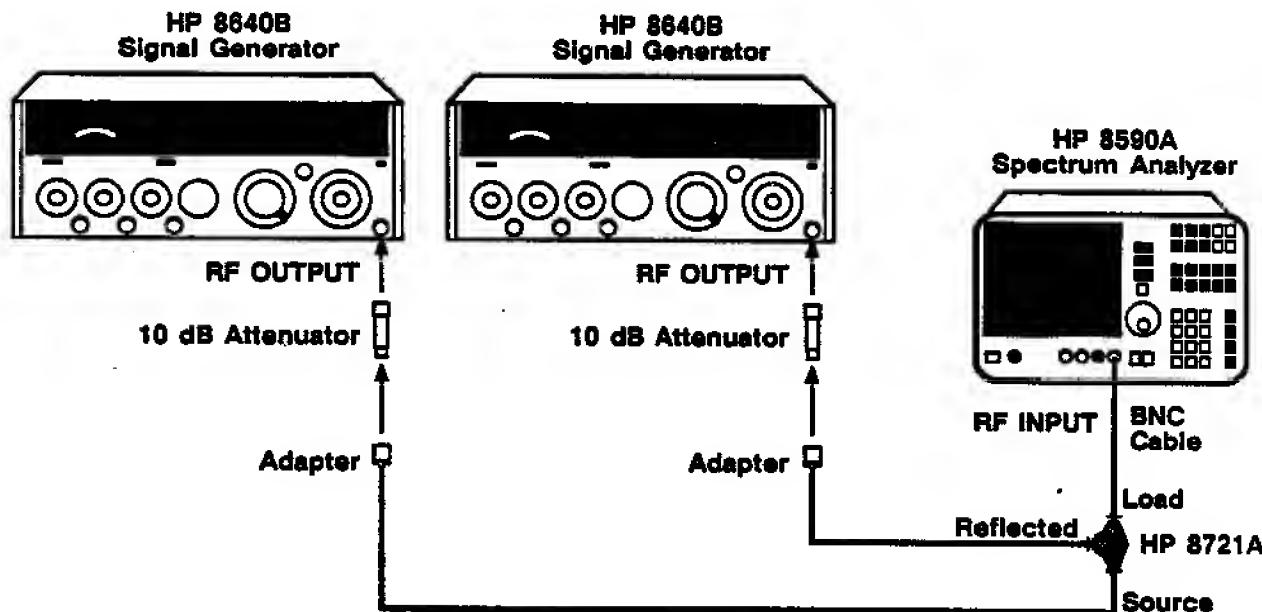

Figure 1-4. Spurious Response—Third-order Intermodulation Distortion Test Setup
2. Connect the equipment as shown in Figure 1-4. If your analyzer has Option 001 (75-ohm RF input), connect the 75-ohm side of the minimum loss adapter to the 75-ohm cable, connect the other end of the 75-ohm cable to the RF input of the analyzer, and connect the 50-ohm side of the minimum loss adapter to the Directional Bridge.